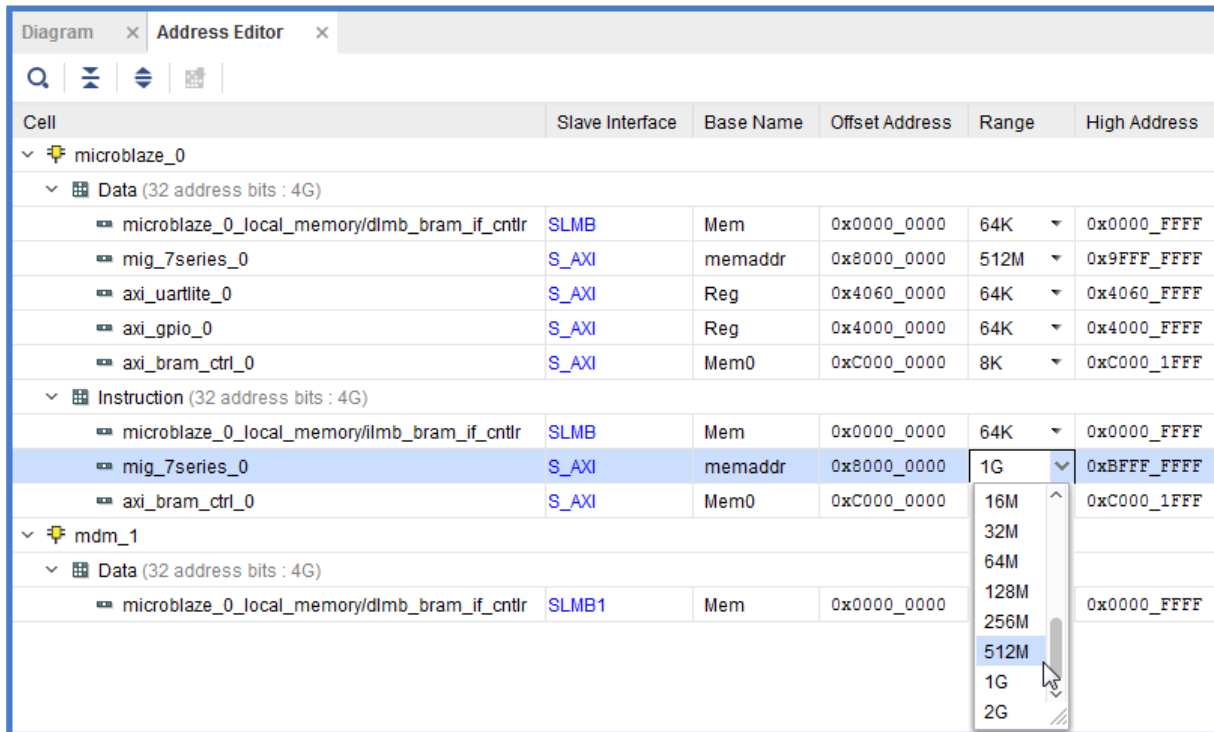

Figure 101: Data and Instruction Set to 512 MB
- b. Change the range of **mig_7_series_0** IP in both the Data and the Instruction section to **512 MB**, as shown in Figure 101.